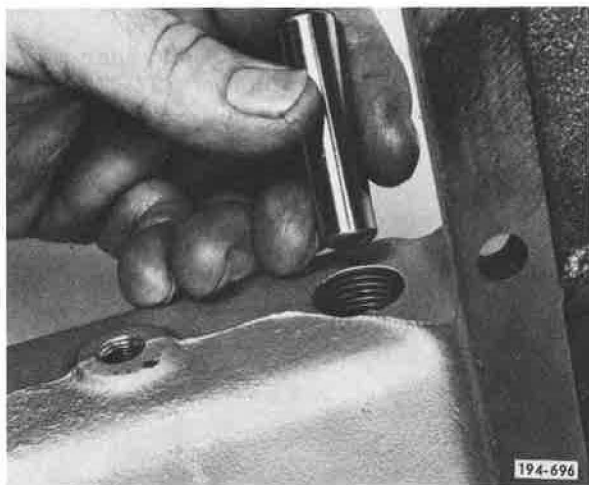

Figure 5-883. Installing Plunger
17. Place Hi/Direct shift rail in neutral position, and install interlock plunger. See **Figure 5-883**.